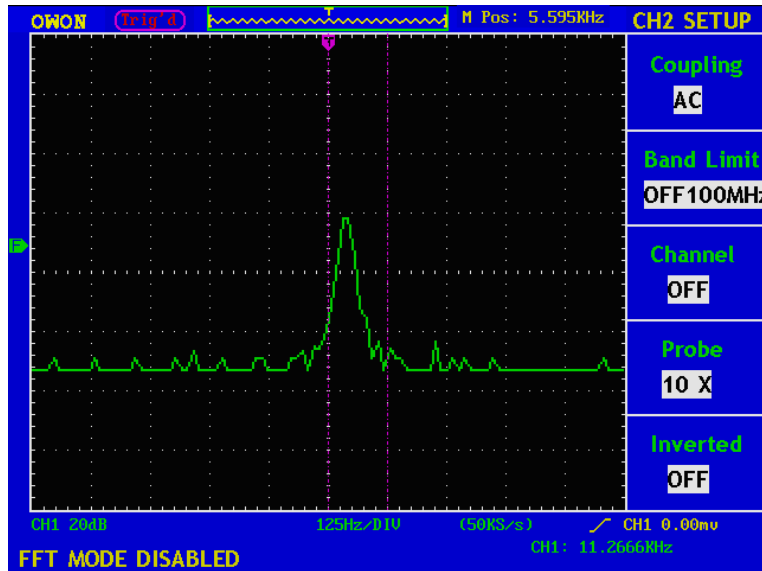

Fig. 5-4 Channel CH1 is disable under FFT mode
- (1). Press the **CH1 MENU** button and call out the **CH1 SETUP** menu.
- (2). Press the **F3** menu selection button and select the Channel as **OFF**, with Channel 1 switched off.
- (3). Press **F3** menu selection button again, select the channel as **ON**, with Channel 1 is switched on.
**Note:** In FFT mode, both CH1 and CH2 are not allowed to be ON when F3 is pressed. See Fig.5-4.